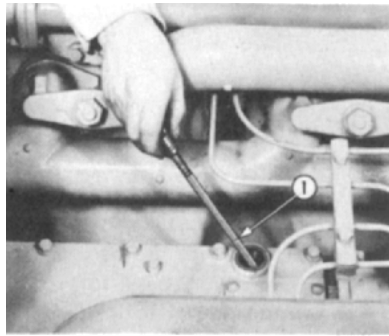

Fig. 37. Fuel-injection-pump housing
2. Check oil level of fuel-injection-pump housing with bayonet gage. Add oil, if necessary, to bring level to full mark on gage. See Fig. 37. Recommended lubricant-straight mineral oil.
2. Drain the oil in the fuel-injection-pump housing (Fig. 37) by opening drain valve 11, Fig. 36E. Close valve and refill to full mark on bayonet gage.